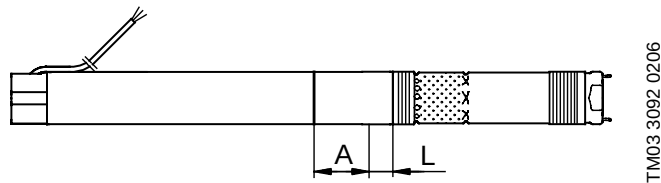

Fig. 2. Tighten area
8. Turn motor and pump to a horizontal position and place them in a vice, using the two *Protective clamps* pos. B, see Fig. 2. Tighten area.
11. Push the end cover into the motor. Fit and tighten the screws pos. 250 using the *Torque screwdriver pos. K* and the bit torx T20 from service tool *pos. G*.